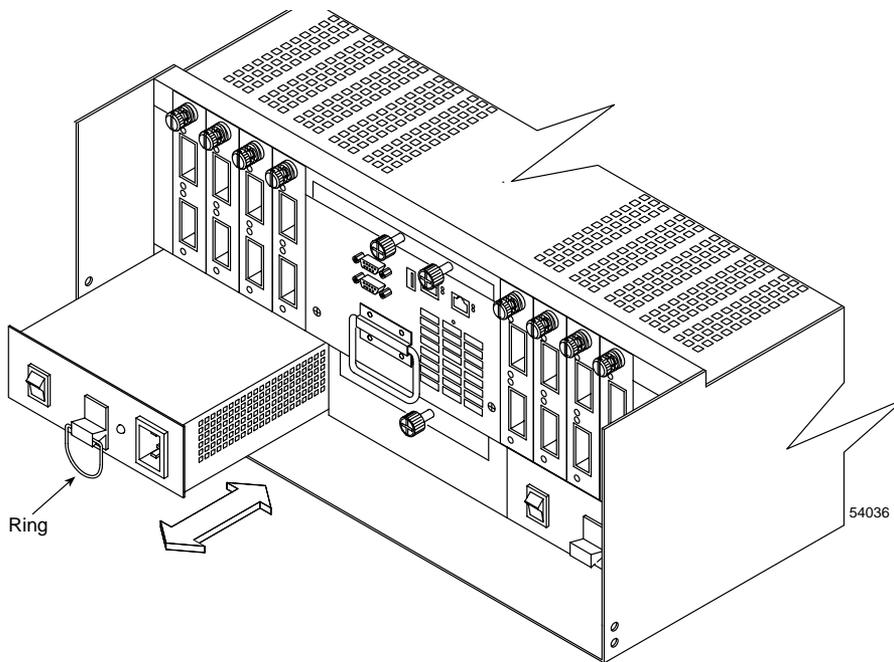

Figure 4-12 Removing and Installing a Power Supply Canister
4. Remove the failed power supply (Figure 4-12). Pull the ring to release the canister and slide it out.
7. Install the new power supply canister (Figure 4-12). Push the canister into the slot until it locks in place.